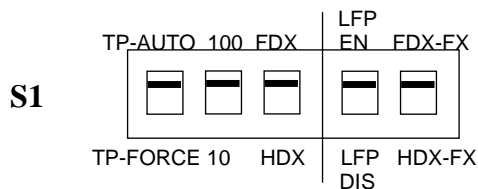

Fig. 13 S1—Bit 1, 2, 3, 4, 5 Configuration and Setting
| TP Port    | Default: AUTOAUTO or FORCE setting, see Fig. 13 S1—Bit 1   |
| Fiber Port | Default: 100FDX"100FDX"/"100HDX" setting, see Fig. 13 S1—Bit 5   |
**Note:** Link fault pass through (LFP) function only takes effect as S1-Bit4 (see Fig. 13) is enabled. Disabled S1-Bit4 will turn this media converter into a general one.